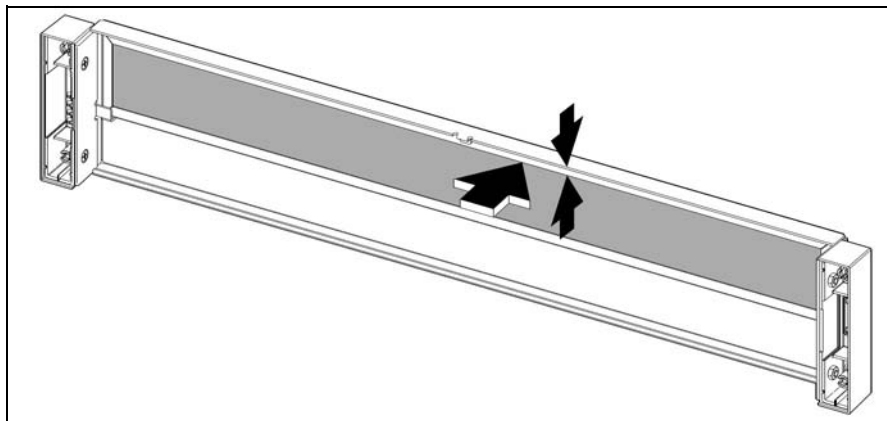

Figure C.41 - Air Filter Removal
4. As indicated by the large arrow in **Figure C.41**, pull the top of the filter frame downward and outward gently to dislodge its laminated external foam pads from the bezel's interior walls.